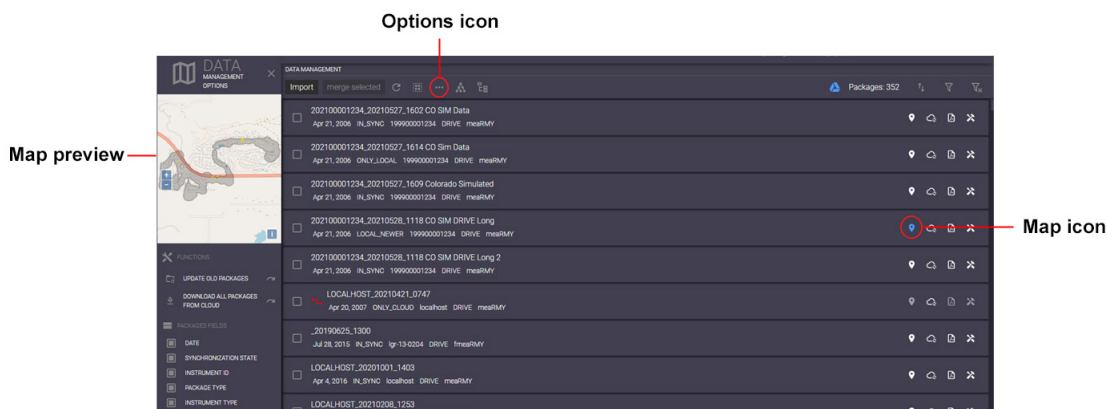

Figure 43 Data Management Map Preview
- 1 From the *Data Management* screen, click the **Map** icon on the desired drive package (see Figure 43): A map preview of the drive package appears.